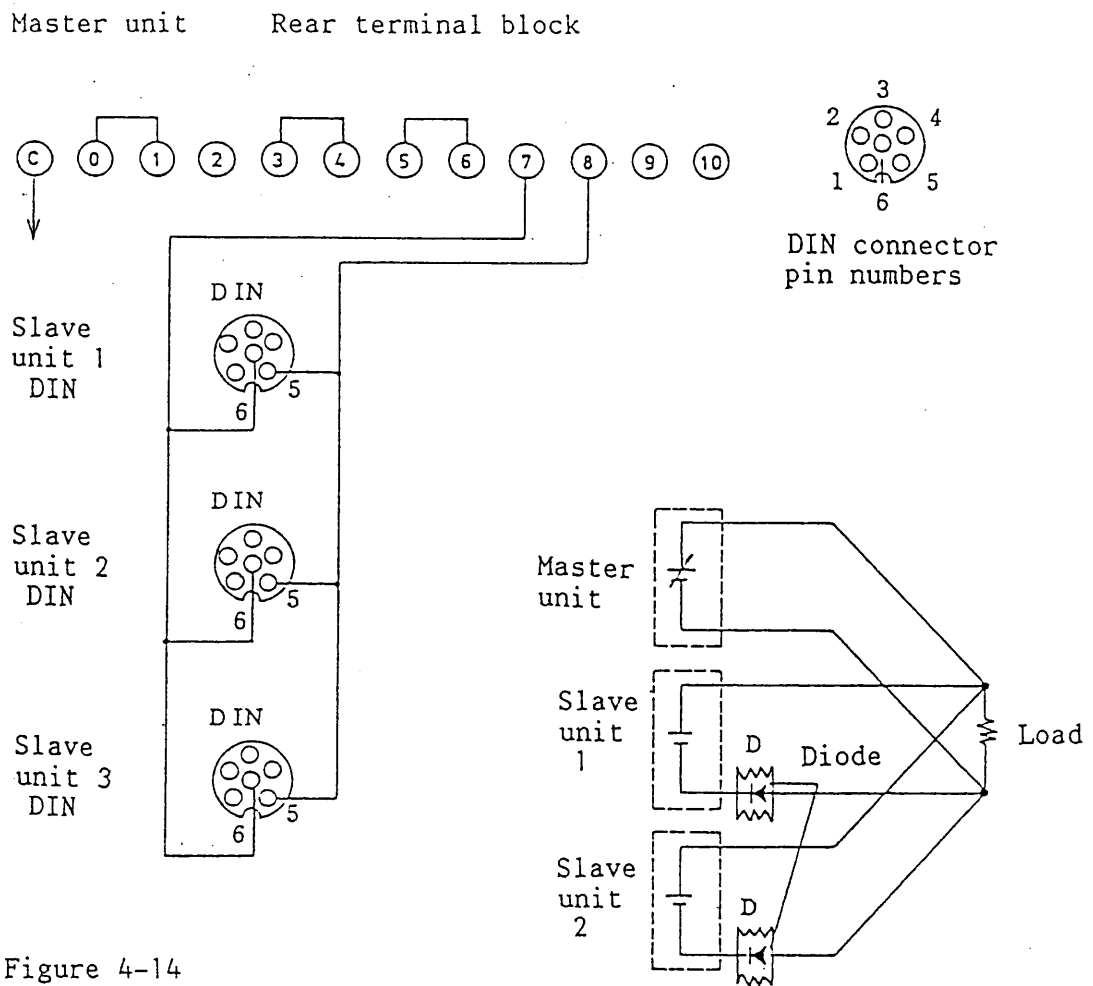

Figure 4-14
2. Connect DIN connector pins ⑥ and ⑤ of the slave unit(s) to rear terminals ⑦ and ⑧ of the master unit. (See Figure 4-14.)
When diode (D) is connected in the "-" output line of each slave unit, connections indicated in Figure 4-14 are not necessary.
At the instant the thyristor connected in parallel to the output terminals has started conducting, the power switch of the master unit is turned off and the entire output falls. When the power supply system requires a redundancy feature, connect a diode (D) in series of the "-" output line of each slave unit as shown in Figure 4-15. In this case, the connections indicated in Figure 4-14 is not necessary. Although the redundancy is not for the master unit, even when one of the slave units has failed, the failure is confined within the failed unit alone (its OVP trips) and the entire system is not turned down.